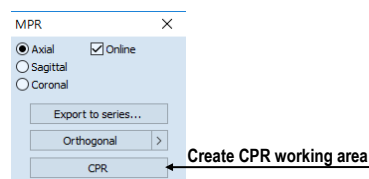

Figure 312 – Create a CPR working area
2. Activate **MPR** tool and click **CPR** button (see Figure 312). Alternatively, you can use main menu to open a new CPR working area (**Tools/  CPR**).